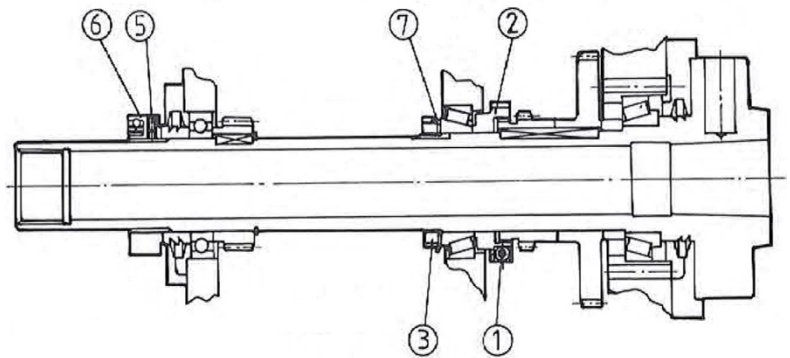

figure 47
- 3) Loosen the “gear positioning nut” (#2) (fig. 47) at least one full turn. Requires first loosening the lock screw on castellated nut so nut can turn.
- 5) Re-tighten gear positioning nut (#2) (fig. 47) to prevent side float of spindle gears. When this nut is fully tightened, find the locking screw (#1) on the castellated nut and tighten to prevent it from working loose.